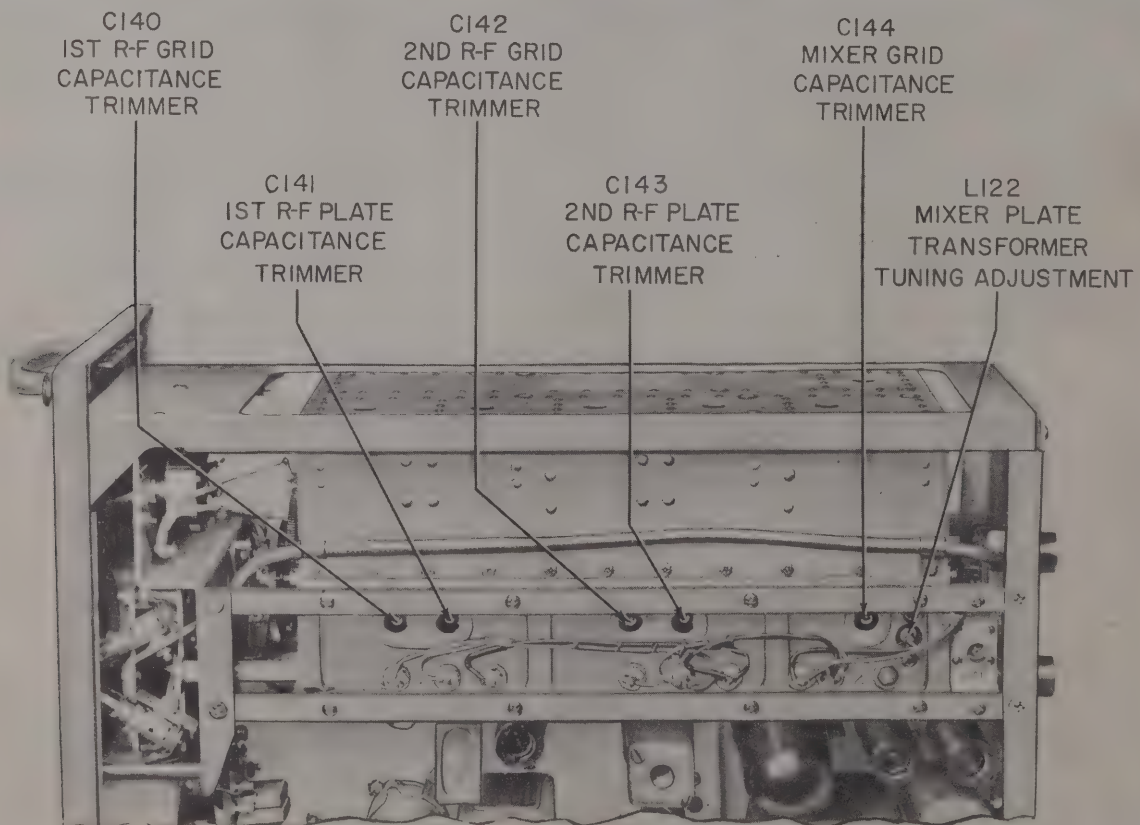

Figure 7-11. Preselector Viewed from Top Side of Chassis, Showing Alignment Adjusting Screws
(14) Tune the secondary of transformer T202 for maximum indication on the electronic multimeter by turning the adjusting screw at the bottom of the transformer.
(15) Tune the primary of transformer T202 for maximum indication on the electronic multimeter by turning the adjusting screw at the top of the transformer.
(16) Tune the secondary of transformer T201 for maximum indication on the electronic multimeter by turning the adjusting screw at the bottom of the transformer.
(17) Tune the first mixer plate inductance, L122 (located at the top of the preselector, as shown in figure 7-11) for maximum indication on the electronic multimeter.